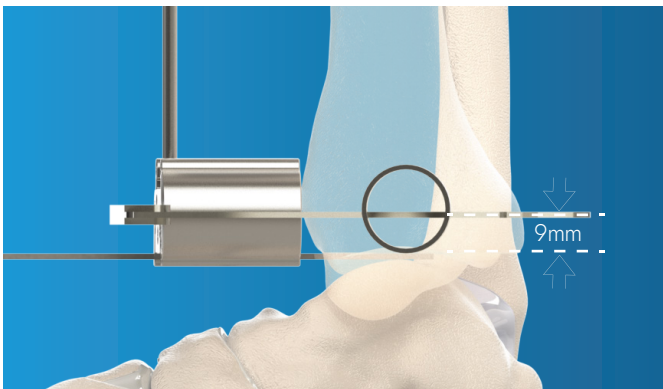

Figure 70. Tibial Cut Trajectory and Nominal Resection
**Note:** Take care to check for proper alignment of the fluoroscopy arm during this step by confirming that the cylinder is a perfect circle on the lateral view (Figure 70).